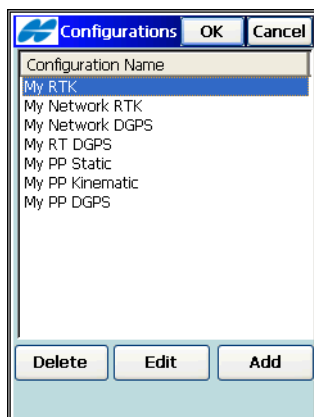

Figure 4-4. Create/Edit a Configuration
The **Configurations** screen contains a list of available GPS+ configurations (Figure 4-4). Either edit an existing configuration or create a new configuration.
1. To create a new configuration, tap the **Add** button (Figure 4-4).